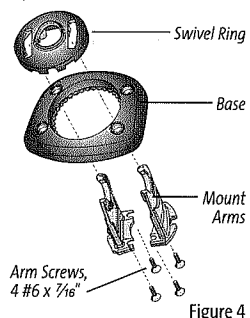

Figure 4
1. Insert swivel ring in base, then insert the mount arms through the base (Figure 4).
2. Secure the mount arms with the 4 #6 screws provided (Figure 4). Hand tighten only.